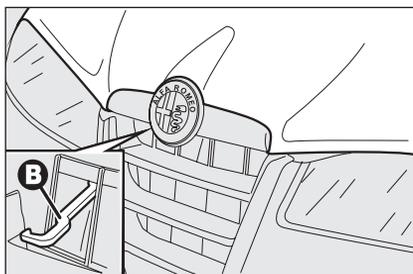

fig. 99
- pull lever **B-fig. 99** and raise the bonnet keeping the lever pulled